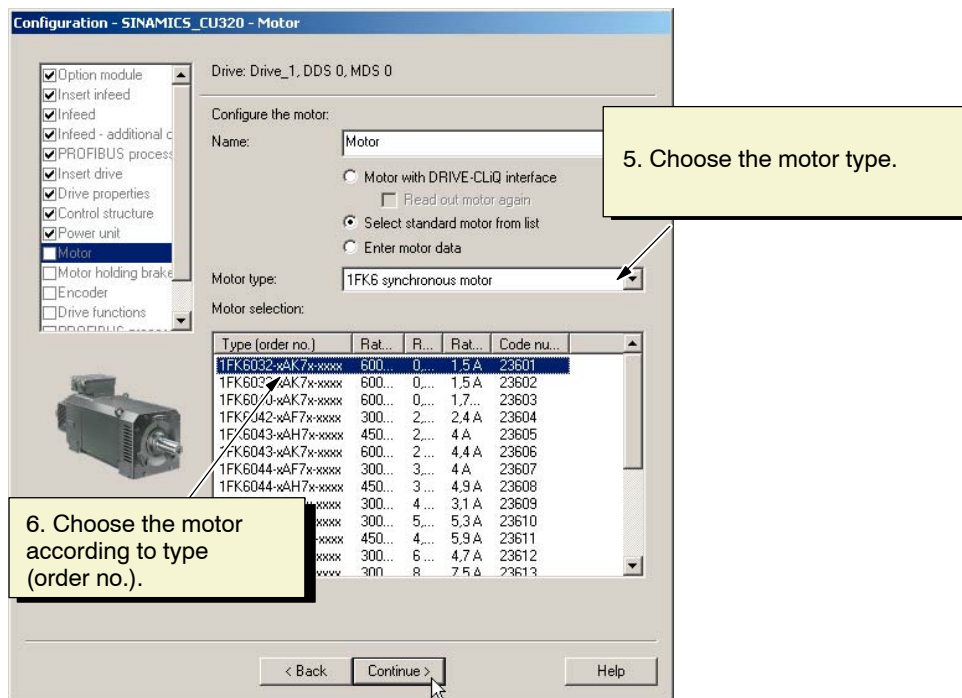

Fig. 5-18 Motor configuration
4. Work through the Wizard by choosing **Continue** > until you reach the point at which you configure the motor (see Fig. 5-18).